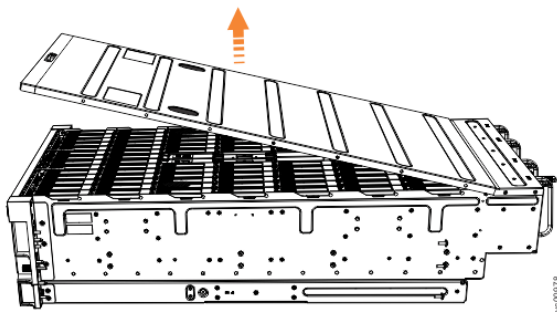

Figure 107. Removing the 5U expansion enclosure cover
4. Carefully lift the cover up, as shown in Figure 107 on page 151.